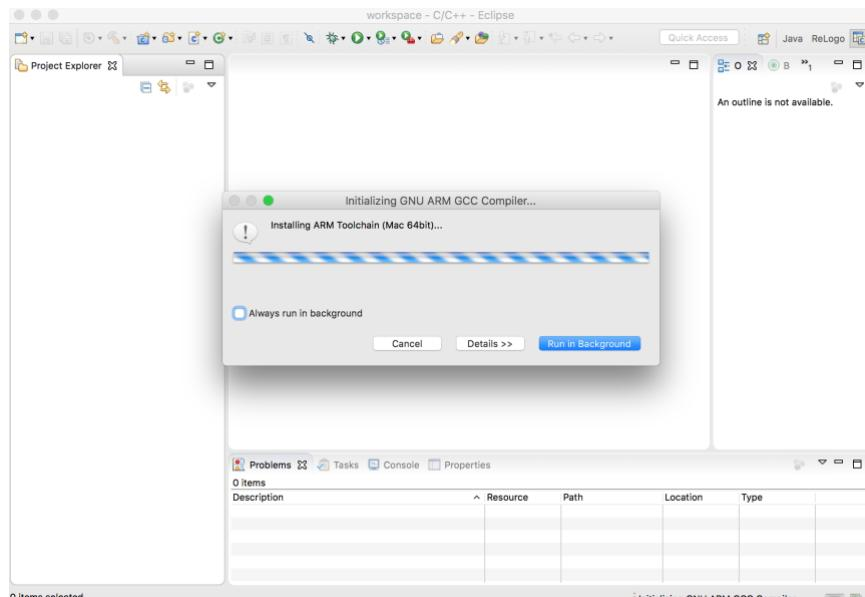

Figure 10: Last step of System Workbench (IDE) installation
11. Make sure your computer is connected to the Internet and double-click SystemWorkbench shortcut on your desktop. Use the default workspace directory and wait for the final step of installation as Figure 10.